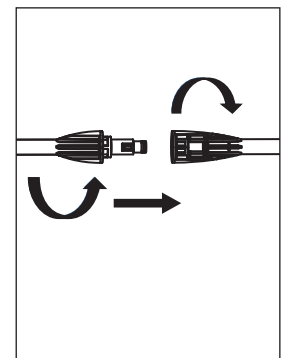

Figure 10 - Attach lance to gun
8. Attach lance to gun, twist and lock. Attach nozzle to lance by pressing the Easy Connect button and inserting into Quick Connector on lance (See Figures 10 &11) (PW190100 only).